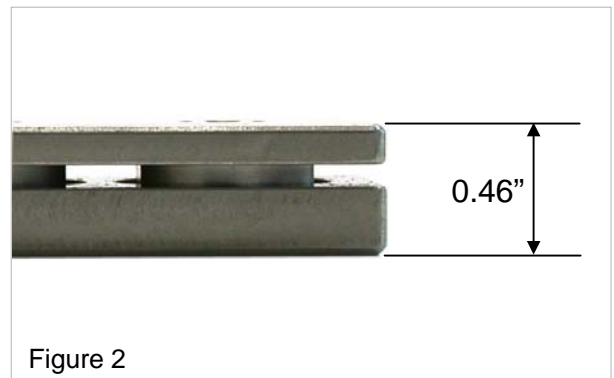

Figure 2
- 3 Reassemble pressure plate assembly by placing plate 2 over the disk springs and tightening the setscrews until the unit height is 0.46" everywhere. Figure 2